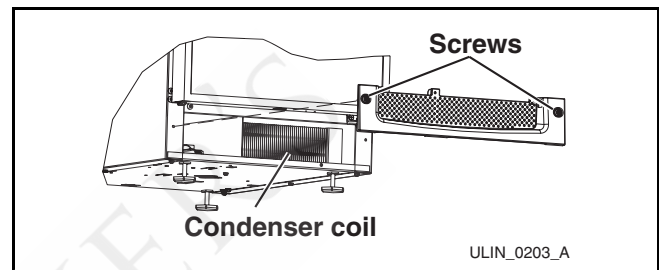

Figure 19
2. Loosen two screws (**Figure 19**) completely.
4. Clean the condenser coil (**Figure 19**) using a soft brush with a "combing" action or vacuum cleaner. Do not touch the condenser coil.